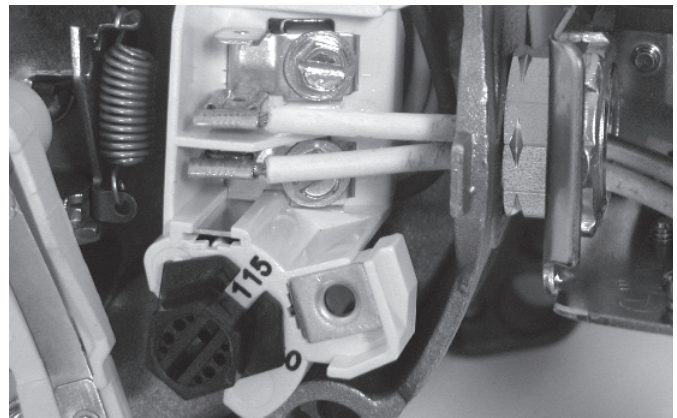

Figure 10: Voltage set to 115 volts, Dial Type
2. Turn the dial counter-clockwise until 115 shows in the dial window as shown in Figure 10.